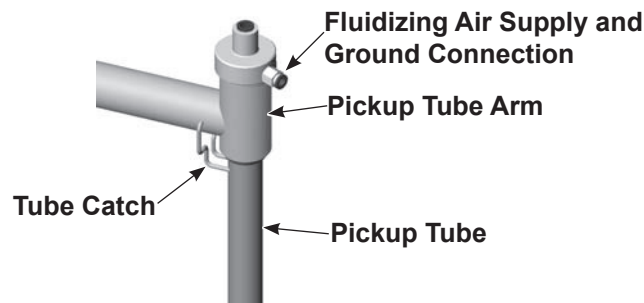

Figure 4-1 Pickup Tube Bracket Use
1. See Figure 4-1. Lift the pickup tube up and swing the tube catch down and under the pickup tube end to hold it in place on the arm.